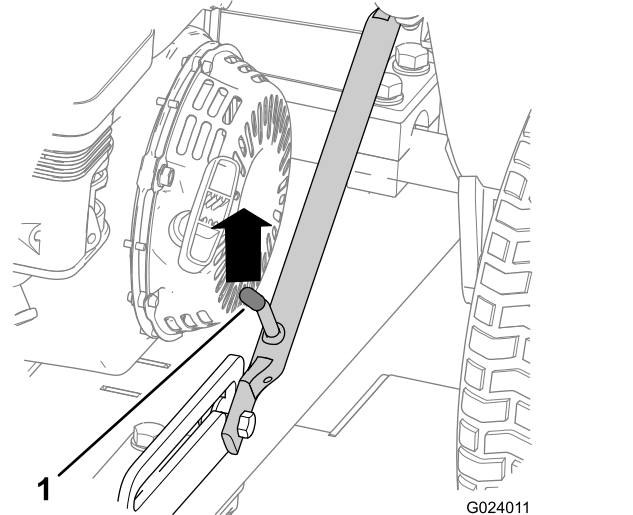

Figure 7
4. Push up on the hitch assembly until the latch lever is unlocked from the slide detent (**Figure 7**).